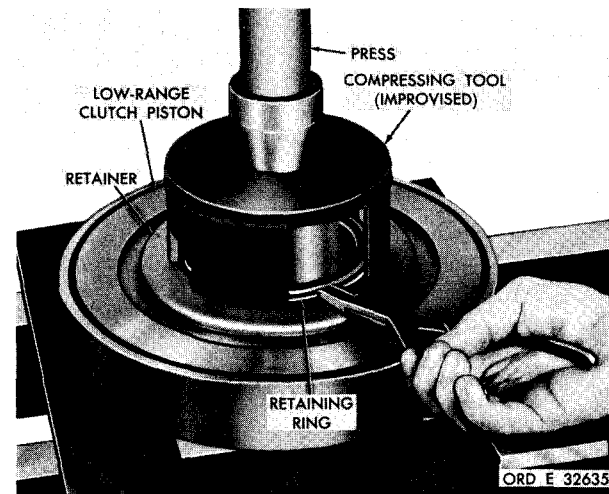

Figure 218. Removing (or installing) retaining ring for low-range piston return spring retainer
a. Position the low- and reverse-range clutch piston housing assembly in a press (fig. 218).
b. Using a compressing tool (fig. 38), remove the retaining ring retaining the piston return spring retainer (fig. 218). Remove the retainer.
d. Remove the low-range clutch piston (fig. 218).
f. Position assembly in a press and using a compressing tool, compress piston springs and install retaining ring (fig. 218).